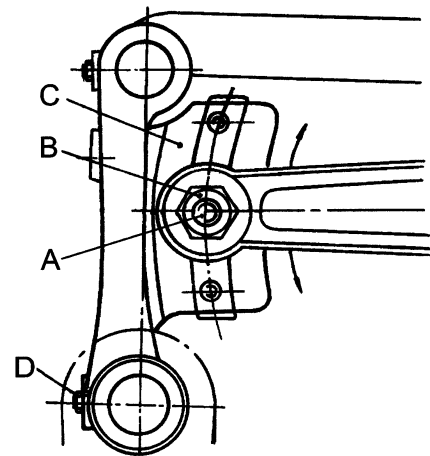

Fig. 9
After loosening screws (D, Fig. 9) rear in the feed rocker (C), the feed bar with feed dog can be moved laterally to center the feed dog in the throat plate slots, if required. Retighten screws (D).
On type GK35-2C stud (A, Fig. 9) for changing the stitch length is accessible from the outside. On type GK35-6A, B and C the housing for the tape cutter have to be removed for changing the stitch length.
The length of the stitch can be adjusted by raising or lowering the stud (A, Fig. 9) in the segment slot of the feed rocker (C). Lowering stud (A) will lengthen the stitch. After loosening nut (B), stud (A) can be moved accordingly.